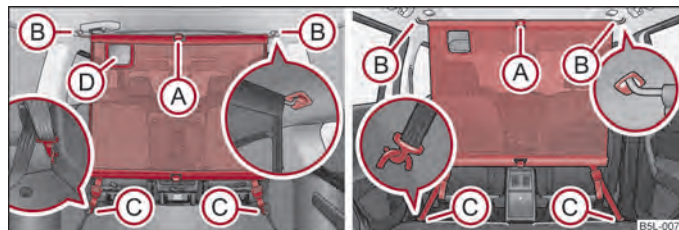

Fig. 62 Use of the static separation net behind the rear seats/behind the front seats
- Insert the cross rod into the mount ① ⇒ fig. 62 first on the one side and push the cross rod forward. In the same way, fix the cross rod to the other side of the vehicle, mount ②.
- Hang the carabiners ③ at the ends of the strap into the fixing eyes behind the rear or front seats.
- Slacken the bands on both sides and take off the carabines **C** ⇒ fig. 62.
The opening **D** ⇒ fig. 62 in the separation net is designed to feed through the three-point seat belt ⇒ page 135.